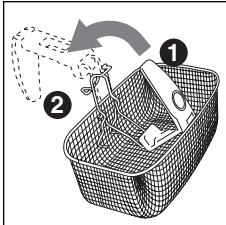
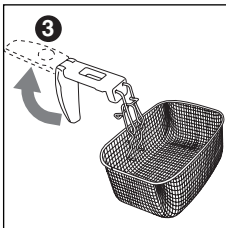

fig. 3
fig. 4
1. Unfold the handle on the basket until it locks into place (pos. 2 fig. 3). Pull the handle on the basket upwards until the handle slide clicks into place (pos. 3 fig. 4).